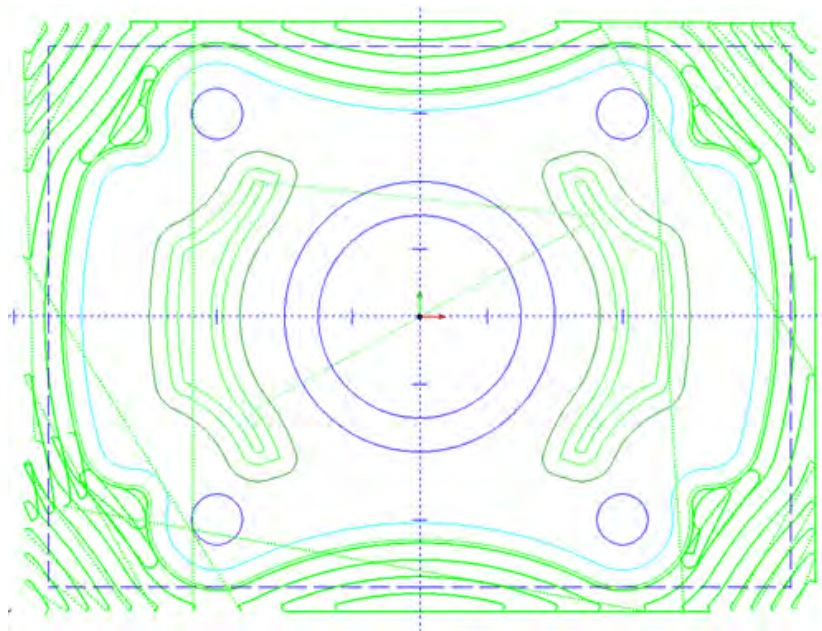

figure 27.1
27. Compute the tool path just using the default settings by right clicking **Pocket High Speed** on the second feature and clicking compute. Notice now how the tool path starts outside of the boundary allowing the tool to enter from off the material (figure 27.1).